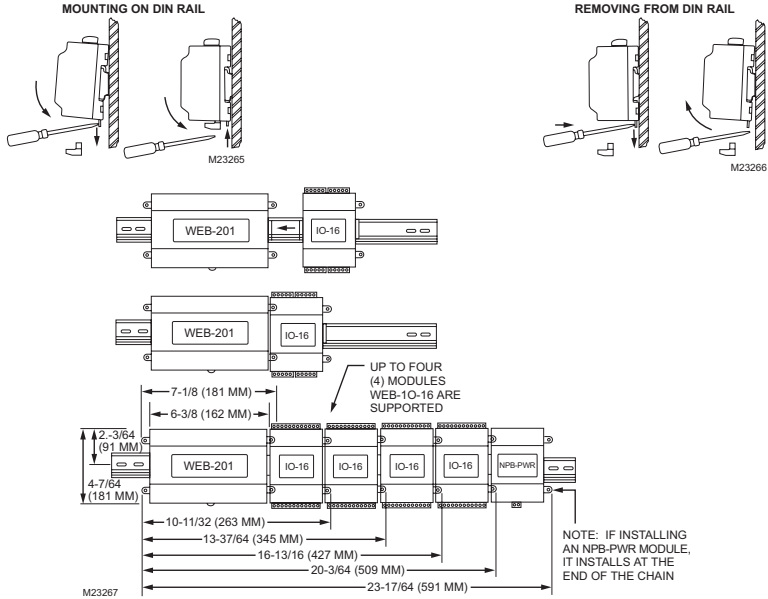

Fig. 2. WEB-IO-16 Module mounting details.
- DIN rail, type NS35/7.5 (1.4 in. x 0.3 in. [35 mm x 7.5 mm]) recommended for mounting with WEB-201 controller. The DIN rail should be of sufficient length to accommodate both the WEB-201 controller and all WEB-IO-16 modules and other modules. See Fig. 2.
NOTE: If installing the WEB-201 controller and WEB-IO-16 module at the same time, refer to the WEB-201 INSTALLATION INSTRUCTIONS document literature no. 95-7722 to install the WEB-201 controller. A maximum of 4 WEB-IO-16 modules are supported. See Fig. 2.
Step 2	Position the WEB-IO-16 module on the rail, tilting to hook DIN rail tabs over one edge of the DIN rail. (See Figs. 2 and 3)
NOTE: To remove WEB-IO-16 module from DIN rail, slide it away from other modules. Insert a screwdriver in the center plastic locking tab and pull downwards, then lift the unit outwards. It may be necessary to remove an I/O connector plug as shown at the top of Fig. 2.